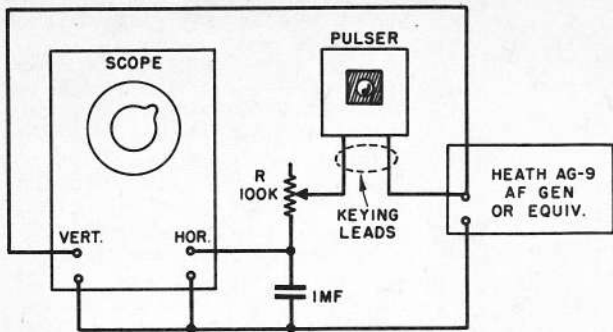

FIG. 3
**Counting Pulses:** K.D. experimenters have asked us how we count pulses. This can be quite a problem. Motor driven pulsers can be checked with rev counter if you can reach the rotating contact to check its speed. But electronic pulsers require electronic means. Our solution is seen in Fig. 3. Normally-open contacts of pulser relay are connected to scope and AF signal generator